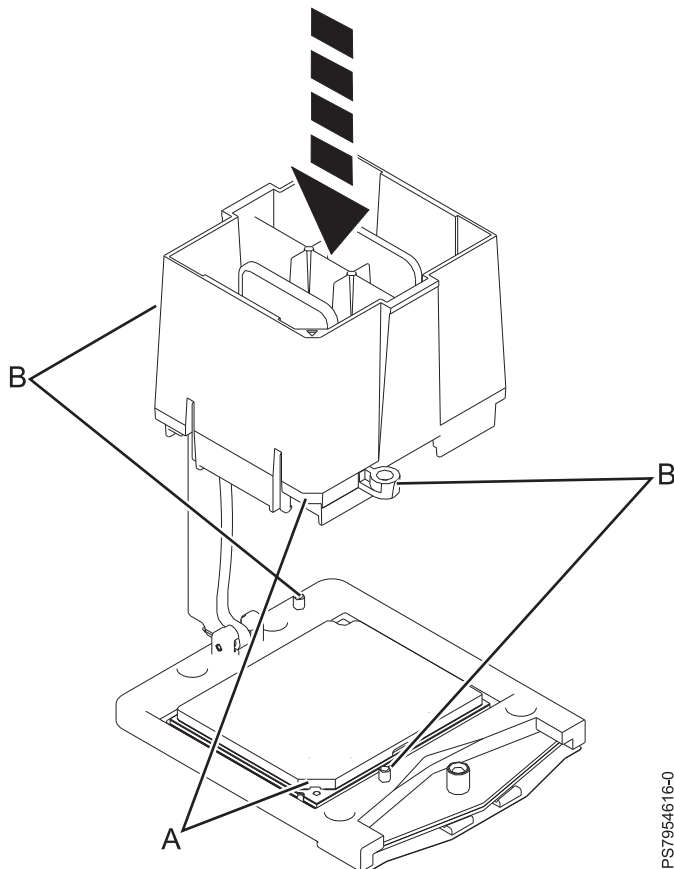
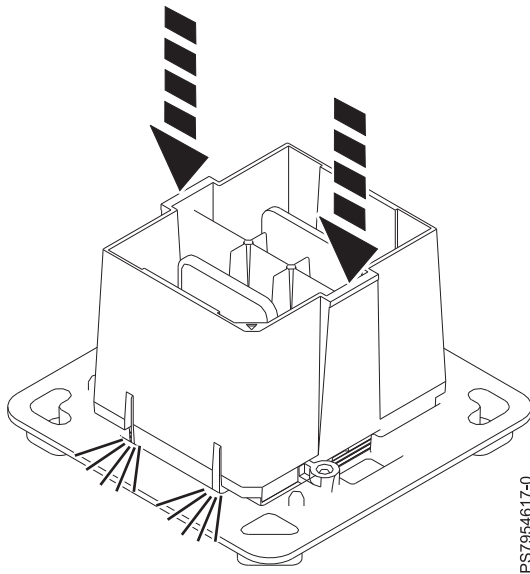

Figure 39. Preparing for microprocessor installation
Figure 40. Locking the microprocessor into the tool
- b. Lower the tool over the microprocessor by ensuring that the two guide pins **(B)** are inserted into the alignment holes on each side of the tool, as shown in Figure 39. Then push down on the tool to lock the microprocessor into the tool, as shown in Figure 40 on page 77.